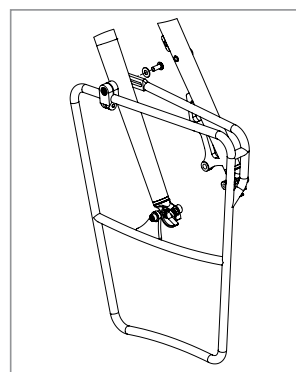

Figure 5
5. Install the button head M5 x 12mm bolt to the inside of the mid-blade mount (fig 5). Tighten to 4–6Nm.